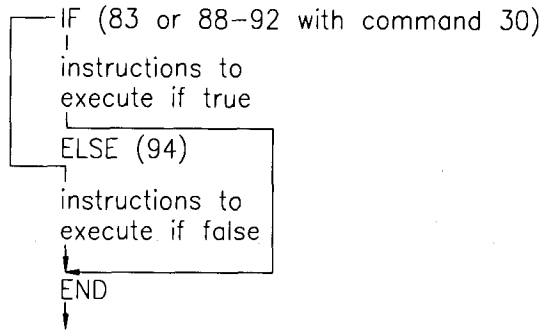

FIGURE 5.9-1. If Then/Else Execution Sequence
When Command 30 (Then Do) is used with Instructions 83 or 88-92, the If Instruction is followed immediately by instructions to execute if the comparison is true. The Else Instruction (94) is optional and is followed by the instructions to execute if the comparison is false. The End Instruction (95) marks the beginning of the instructions which are to be executed regardless of the outcome of the comparison (Figure 5.9-1).